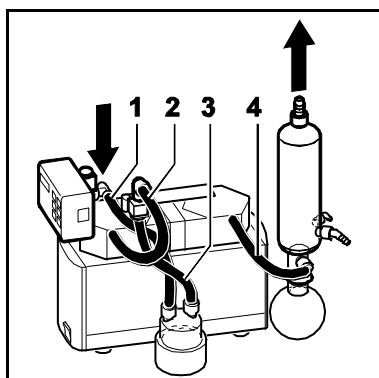

Fig. 17: Tubing system SC
4	Tubes (see fig. 17) <ul style="list-style-type: none"> ▪ Resistant to the medium employed ▪ Inside diameter 10 mm ▪ Length: (1,4) approx. 220 mm, (2) approx. 300 mm, (3) approx. 150 mm
5. Lay hoses for system (see fig. 17).